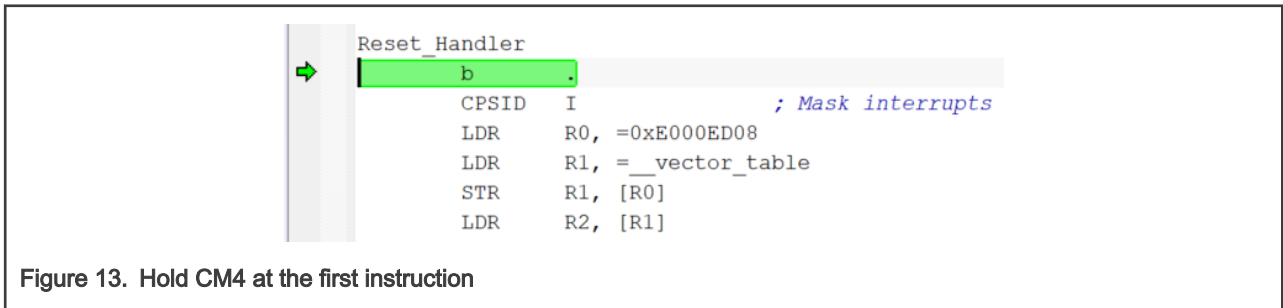

Figure 13. Hold CM4 at the first instruction
1. Add an loop instruction as shown in Figure 13.